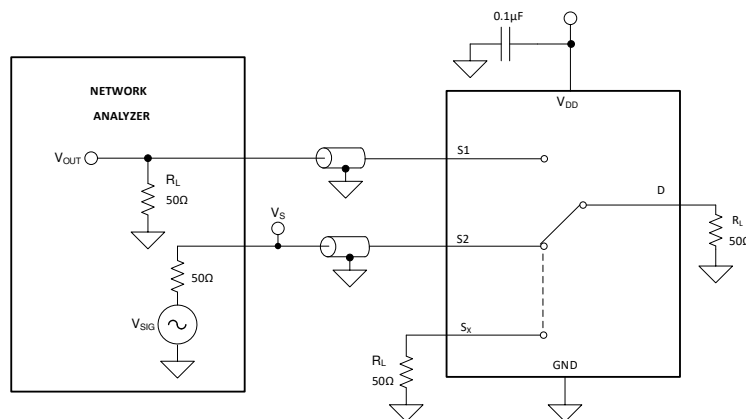

Figure 15. Crosstalk Measurement Setup
Crosstalk is defined as the ratio of the signal at the drain pin (D) of a different channel, when a signal is applied at the source pin (Sx) of an on-channel. Figure 15 shows the setup used to measure, and the equation used to calculate crosstalk.